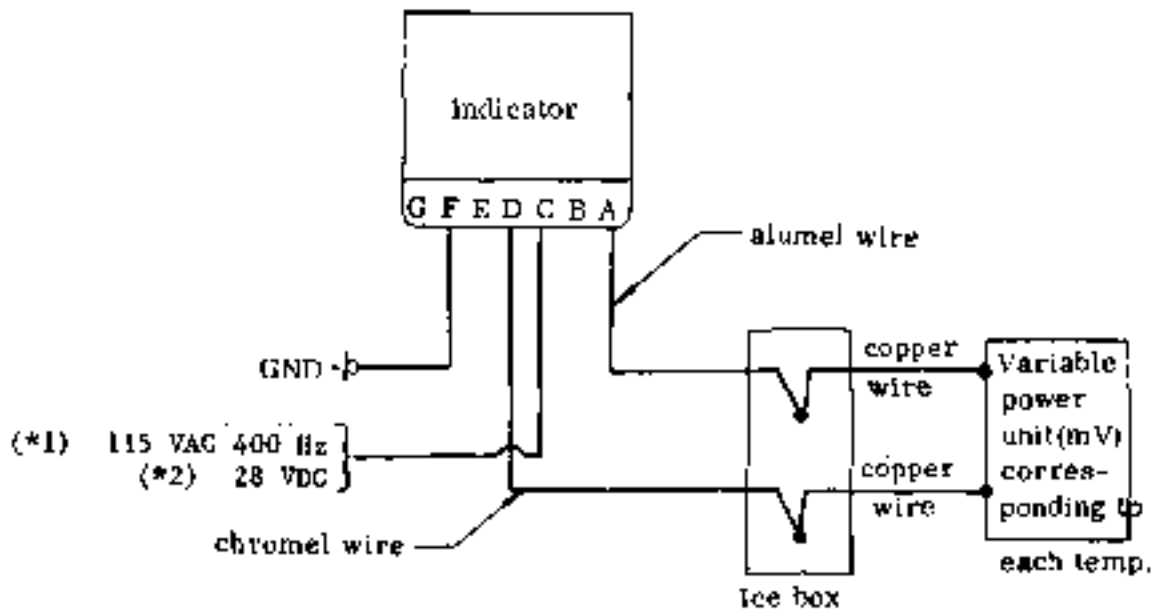

Fig. 10-17
- (1) Connect the indicator as shown in Fig. 10-17. Apply the voltage tabulated below and read the indication. Scale error must not exceed allowable error below.